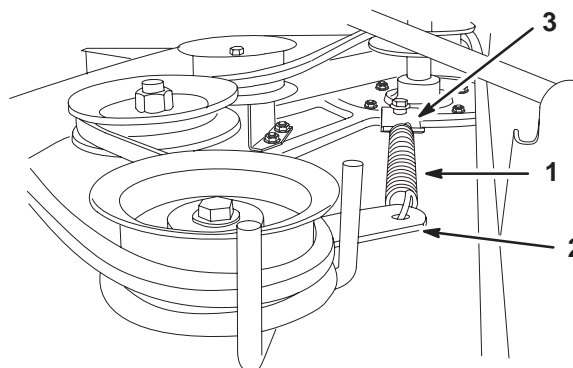

Figure 38
5. Unhook the spring on the idler pulley arm from the bracket on the mower (Fig. 38).